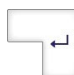

Figure 41
- Touch the **Select Test** drop-down list to select the test method (Figure 41).
- For the second test, the first available tube is highlighted (**Figure 41**). In the example in **Figure 41**, tubes 1 through 4 are tested with the first test. Tube 5 is highlighted and available for the second test.